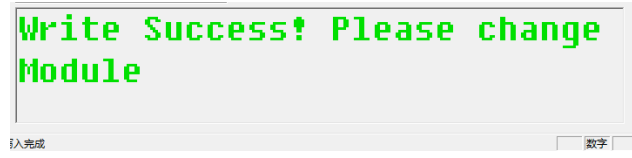

Figure 26
4.7 Wait until the prompt "Write Success" is displayed, indicating that the programming of the module is complete (as shown in Figure 26).